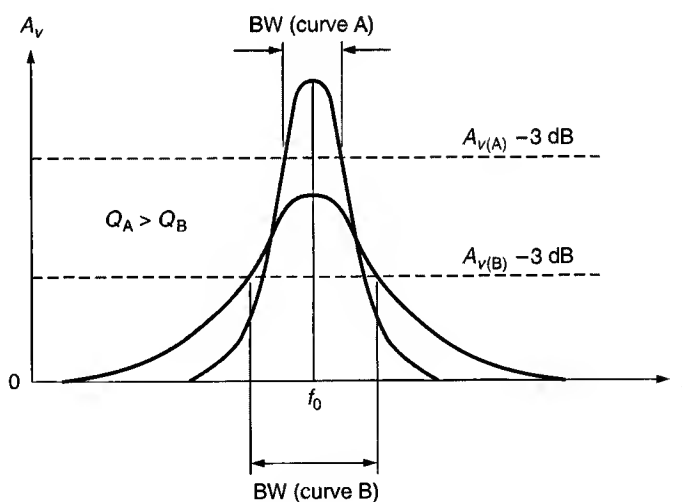

FIGURE 17.5 Bandwidth versus roll-off rate.
The lower the roll-off rate of an amplifier, the greater its bandwidth. This relationship is illustrated in Figure 17.5, which shows the frequency-response curves of two tuned
4. What is the *quality* (Q) rating of a tuned amplifier?
8. Based on the curves in Figure 17.5, what is the relationship (if any) between amplifier Q and voltage gain?